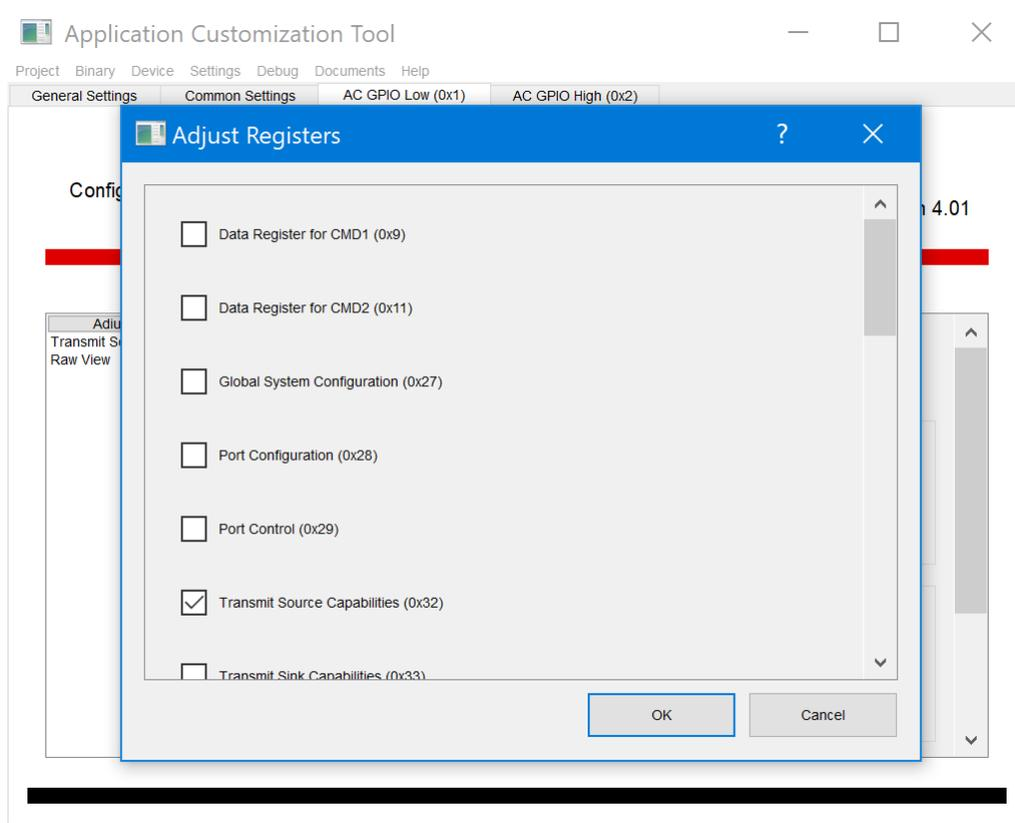
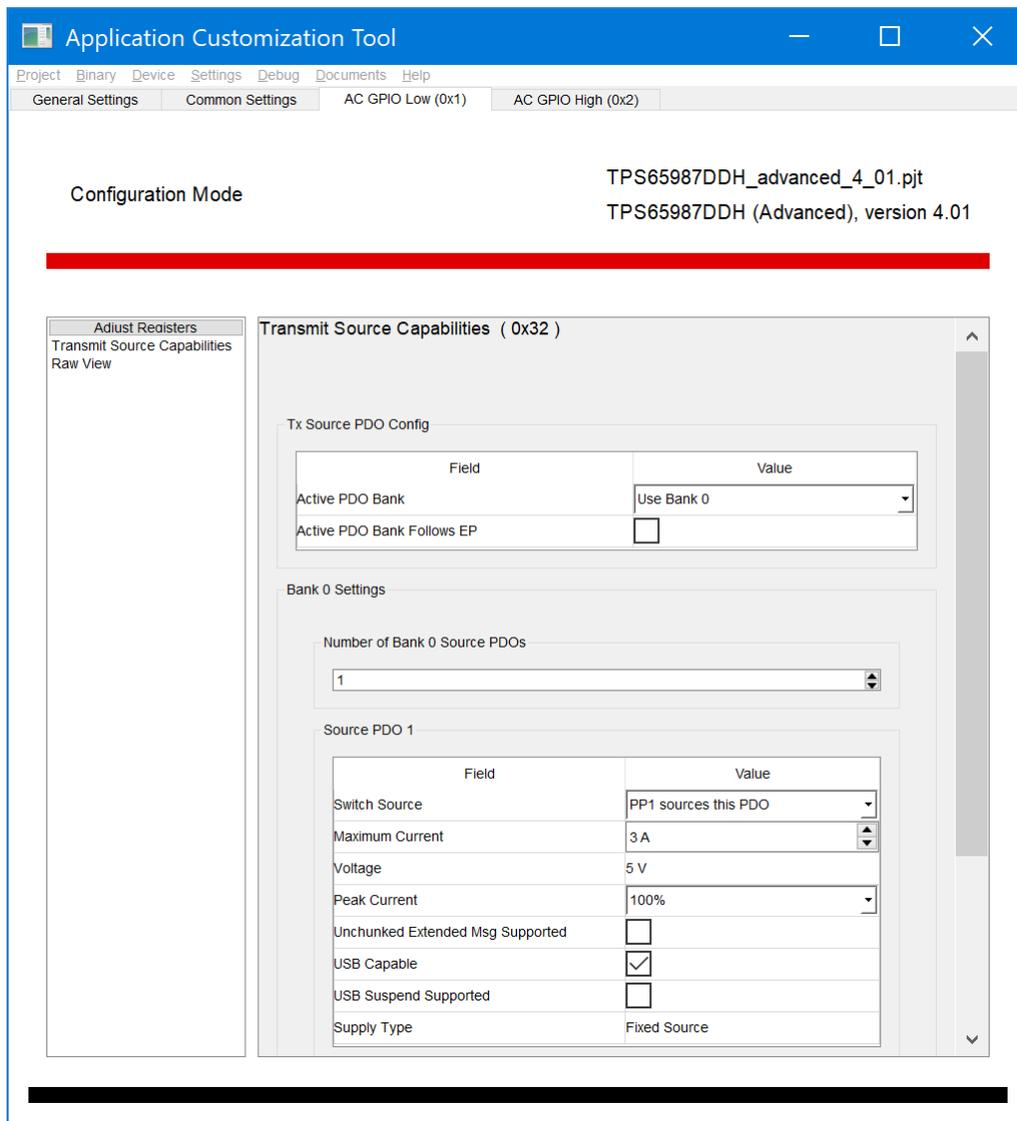

Figure 3-5. Adjust Registers in AC GPIO Low (0x1)
Figure 3-6. App Config GPIO Set Event, GPIO Low Settings Example
4. Adjust Registers in *AC GPIO Low (0x1)* to set the behavior when GPIO4 goes from high to low. External hardware event can trigger the PD controller to change configuration. In this example, GPIO4 high to low transition would configure Transmit Source Capabilities register (0x32) with one PDO as shown in Figure 3-5 and Figure 3-6.